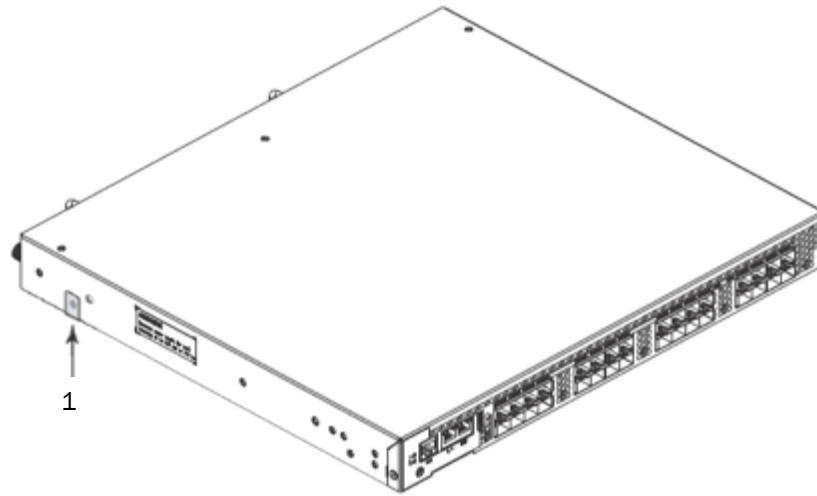
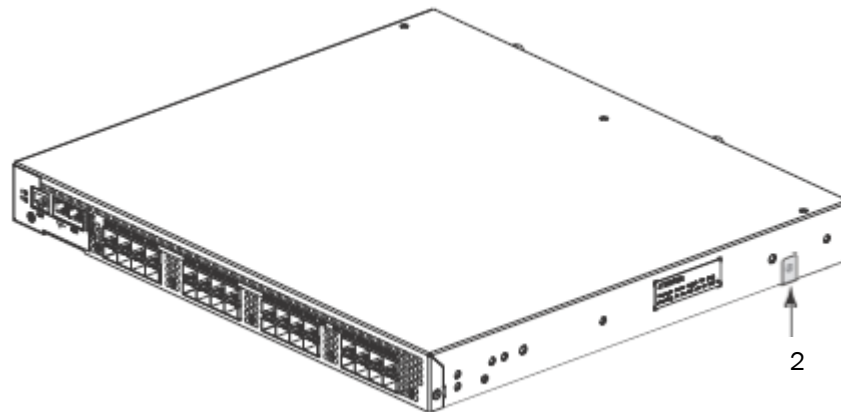

Figure 15 VDX 6730-16, VDX 6730-24 and VDX 6730-32-FCOE left side seal location
Figure 16 VDX 6730-16, VDX 6730-24 and VDX 6730-32-FCOE right side seal location
Two (2) tamper evident seals are required to complete the physical security requirements for the VDX 6730-16, VDX 6730-24 and VDX 6730-32-FCOE. See Figure 15 and Figure 16 for details on how to position each seal.